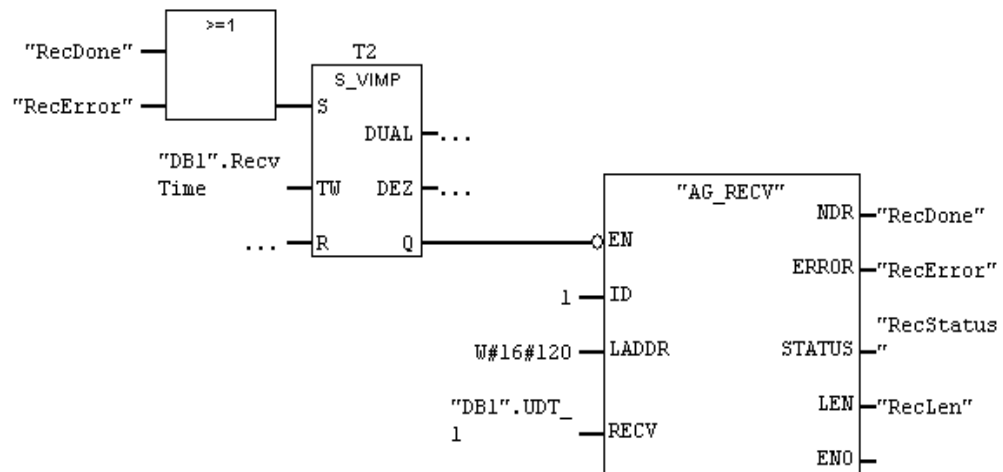

Figure23: The configuration of "AG_RECV" (FC 6)
- ❑ Connect and configure the function blocks as in Figure23.